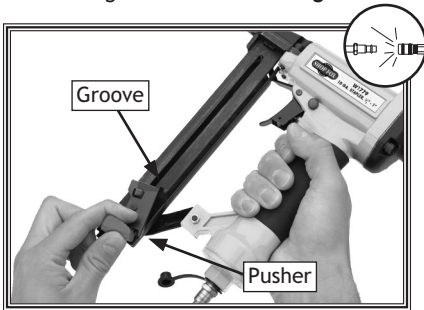

Figure 3. Sliding magazine pusher back and engaging catch lever.
2. Grip the stapler firmly, and pull the magazine pusher back until it latches in the groove as shown in **Figure 3**.